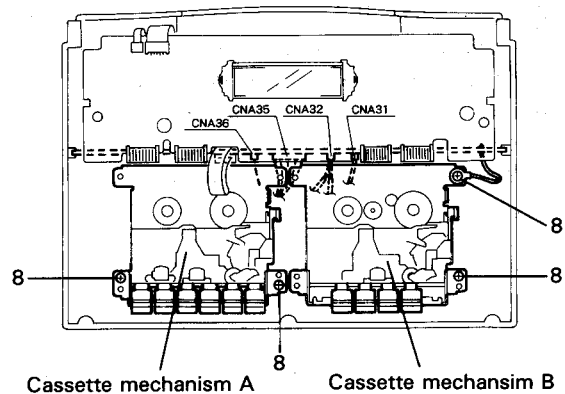

Fig. 7-6
■ **Cassette Mechanism Assembly (refer to Fig. 7-6)**
1. Remove the four screws (8) retaining the cassette mechanism assembly.